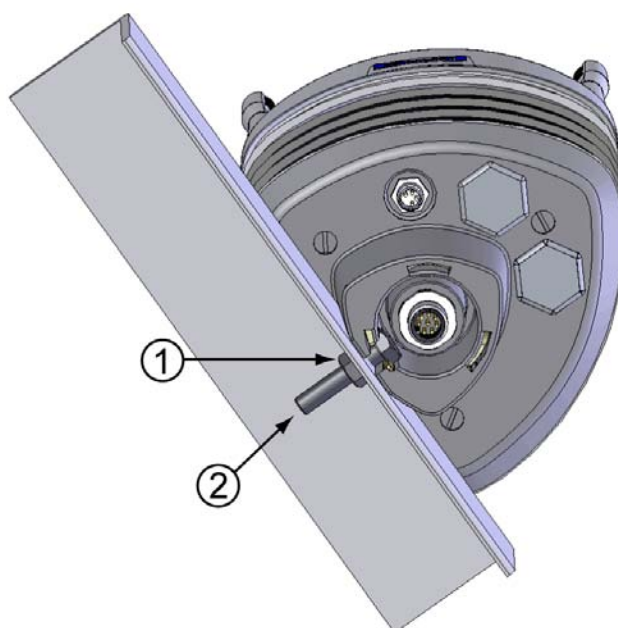
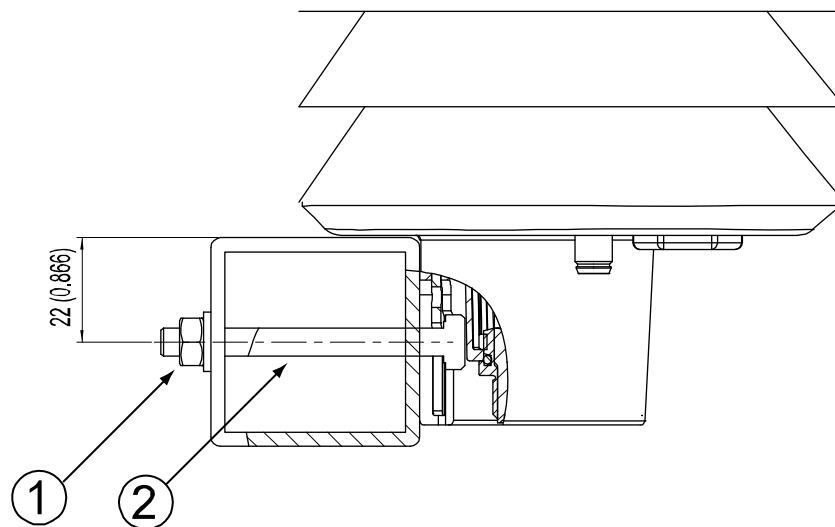

Figure 14 Mounting WXT520 to Cross Arm (L-Profile)
Figure 15 **Mounting Bolt Location in Cross Arm**
3. Mount the transmitter into the cross arm by using a mounting bolt (M6 DIN933) and a nut, see Figure 14 on page 37 and Figure 15 on page 38.
The following numbers refer to Figure 14 on page 37:
The following numbers refer to Figure 15 on page 38: